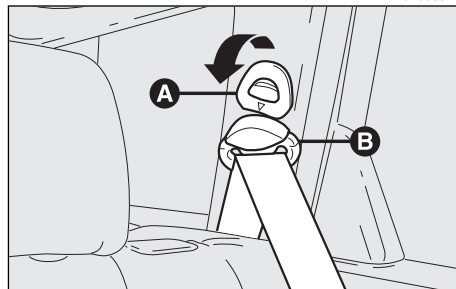

fig. 46
To adjust the belt, use handle (A-fig. 46) (front seat belts) or (A-fig. 47) (rear side belts, Sportwagon versions only) as shown by the arrow and raise or lower the rocker ring (B) to the most suitable of the possible positions. After adjusting, release handle (A).
After adjustment, always check that the slider (B) is anchored in one of the positions provided. To do this, with the button (A-fig. 46) or (A-fig. 47) released, exert a further pressure to allow the anchor device to catch if release did not take place at one of the preset positions.